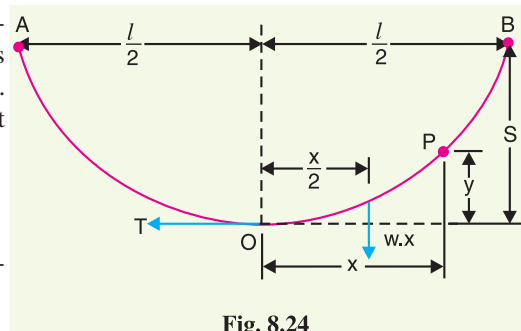

Fig. 8.24
**(i) When supports are at equal levels.** Consider a conductor between two equilevel supports  $A$  and  $B$  with  $O$  as the lowest point as shown in Fig. 8.24. It can be proved that lowest point will be at the mid-span.